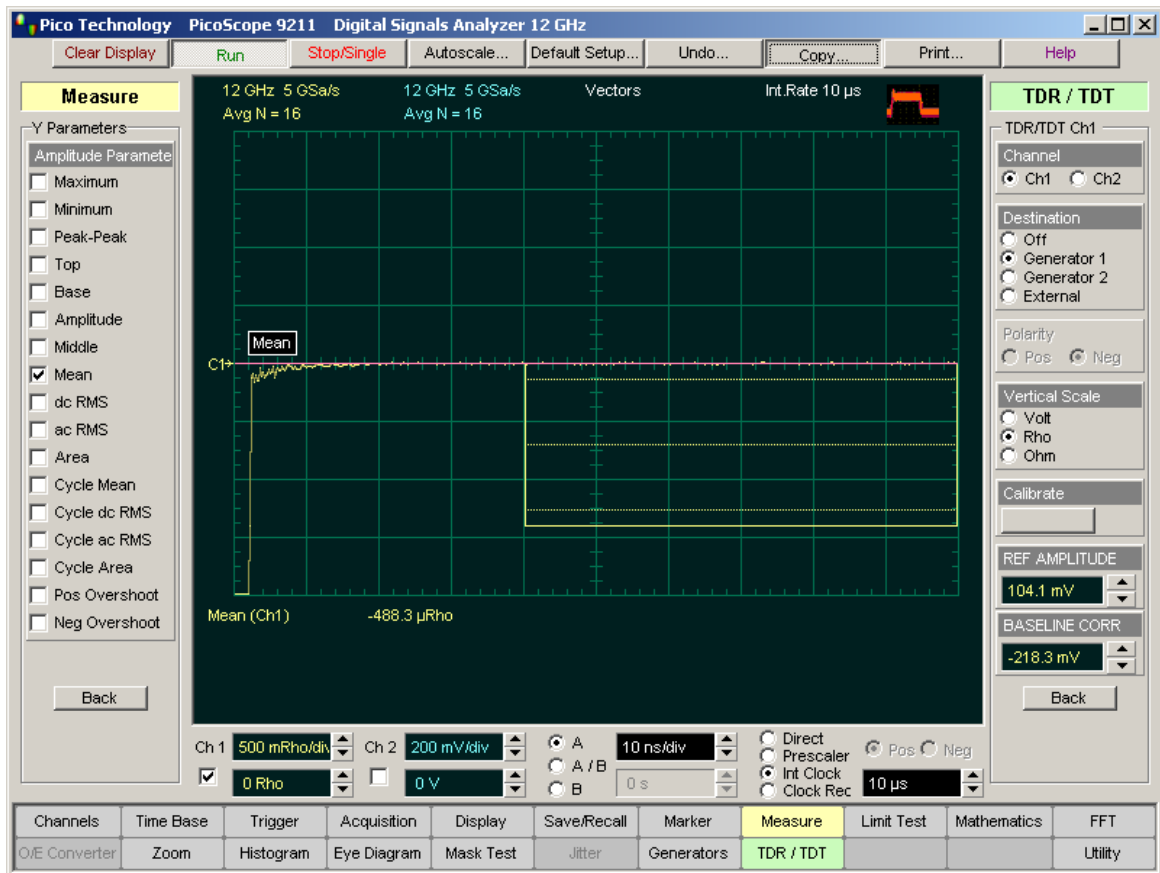

Figure 1
1. Click Rho in the Vertical Scale ³⁵⁸ menu. See Figure 1.
Figure 1 shows that the rho value is near to 0 when the transmission line is terminated in 50 ohms. The Mean measurement shows -488.3 mrho.